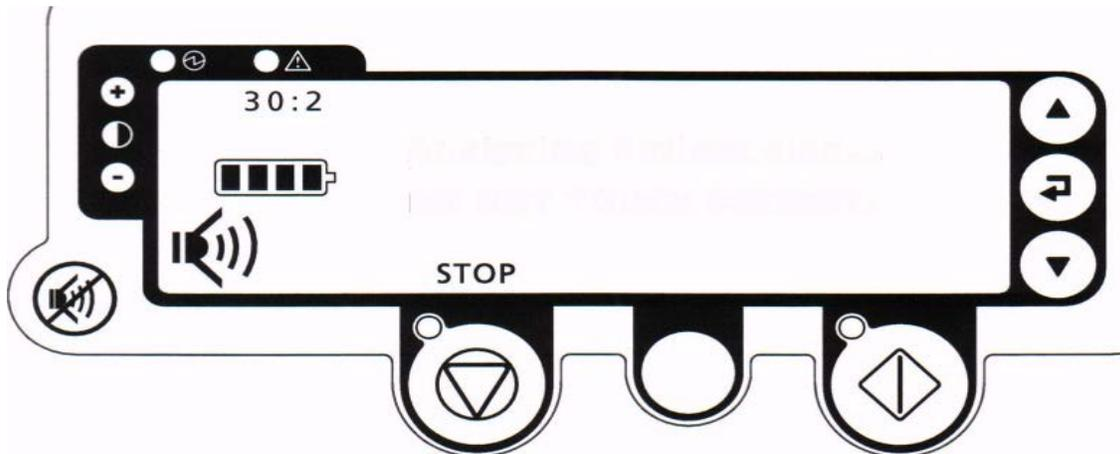

Figure 3-9 Analyzing Patient Size Display Panel Screen
2. Press and release the Start/Continue button once. The AutoPulse Platform automatically adjusts the bands to the patient's chest (see Figure 3-9) and determines the appropriate compression.